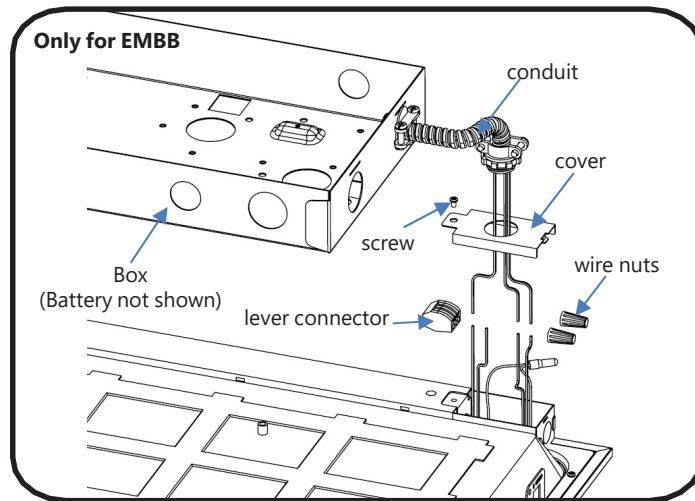

Fig 8
**First**, Cut LED wires (red , white ) as step ④ , then strip the wire tips by 10mm.
**Third**, Fix the fitting of conduit to the cover of compartment. See Fig 8.